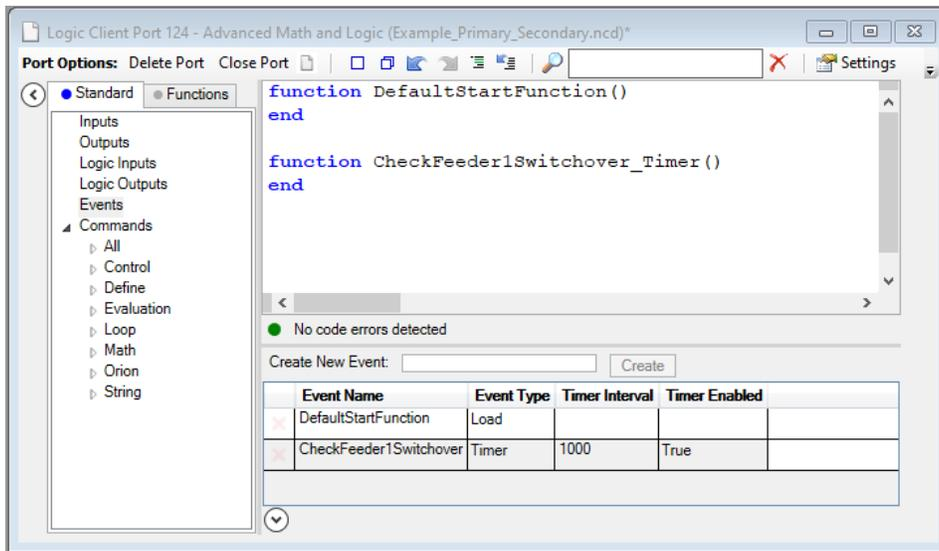

Figure 35: Create Event for Automatic Switchover
Step 1: Create the Logic Timer Event (Figure 35)
The following window will now be displayed (Figure 35). Notice the new `CheckFeeder1Switchover_Timer` function has been added to the logic editor. The logic code needed for the automatic switchover will be placed into this function.